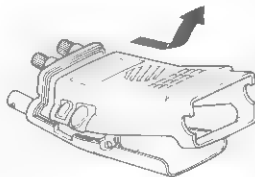

Fig. 3
5. Open the front panel from the PTT switch side, being careful of the internal wiring. The PC board mounted on the front panel projects into the top panel by about 3 mm. Pull the front panel down to open it (Fig. 3).